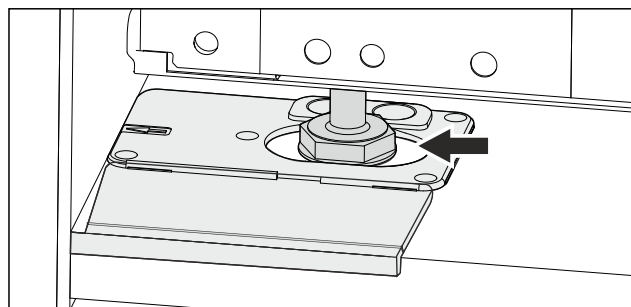

Fig. 50
- Align the appliance with the adjustable feet. Fig. 50 ()